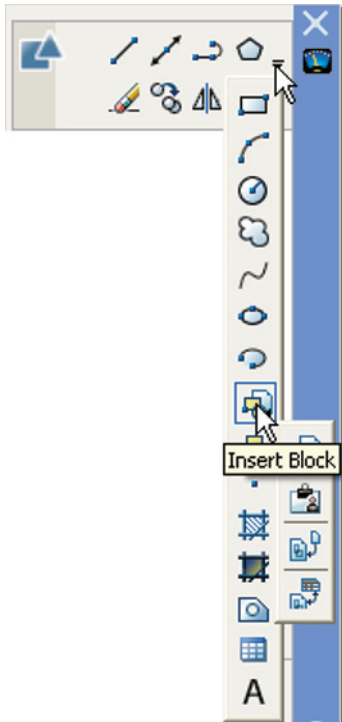
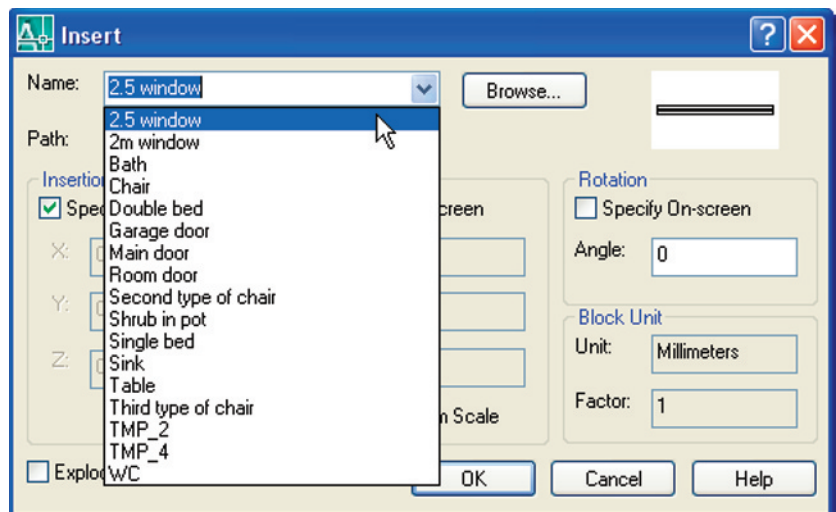

Fig. 9.6 The **Insert Block** tool icon in the **2D Draw** control panel
Fig. 9.7 The **Insert** dialog with its **Name** popup list displaying the names of all blocks in the drawing
1. Left-click the **Insert Block** tool icon in the **2D Draw** control panel (Fig. 9.6) or the **Insert Block** tool in the **Draw** toolbar. The **Insert** dialog appears on screen (Fig. 9.7). From the **Name** popup list select the name of the block which is to be inserted, in this example the **2.5 window**.